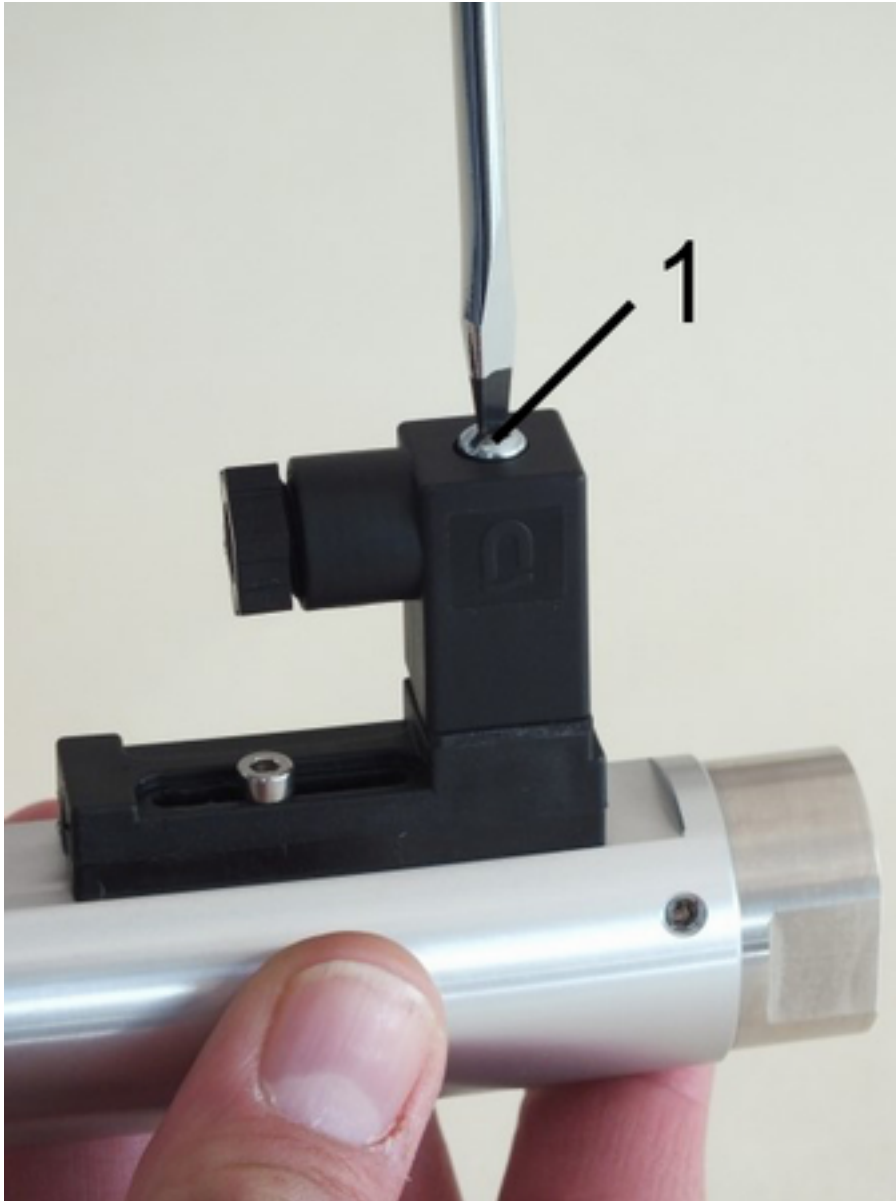

Fig. 20: Detach socket
- 1.** ➤ Release the fixing screw (*Fig. 20/1*) from the socket
- 9.** ➤ Plug the female socket onto the connector plug and tighten the fixing screw (*Fig. 20/1*).